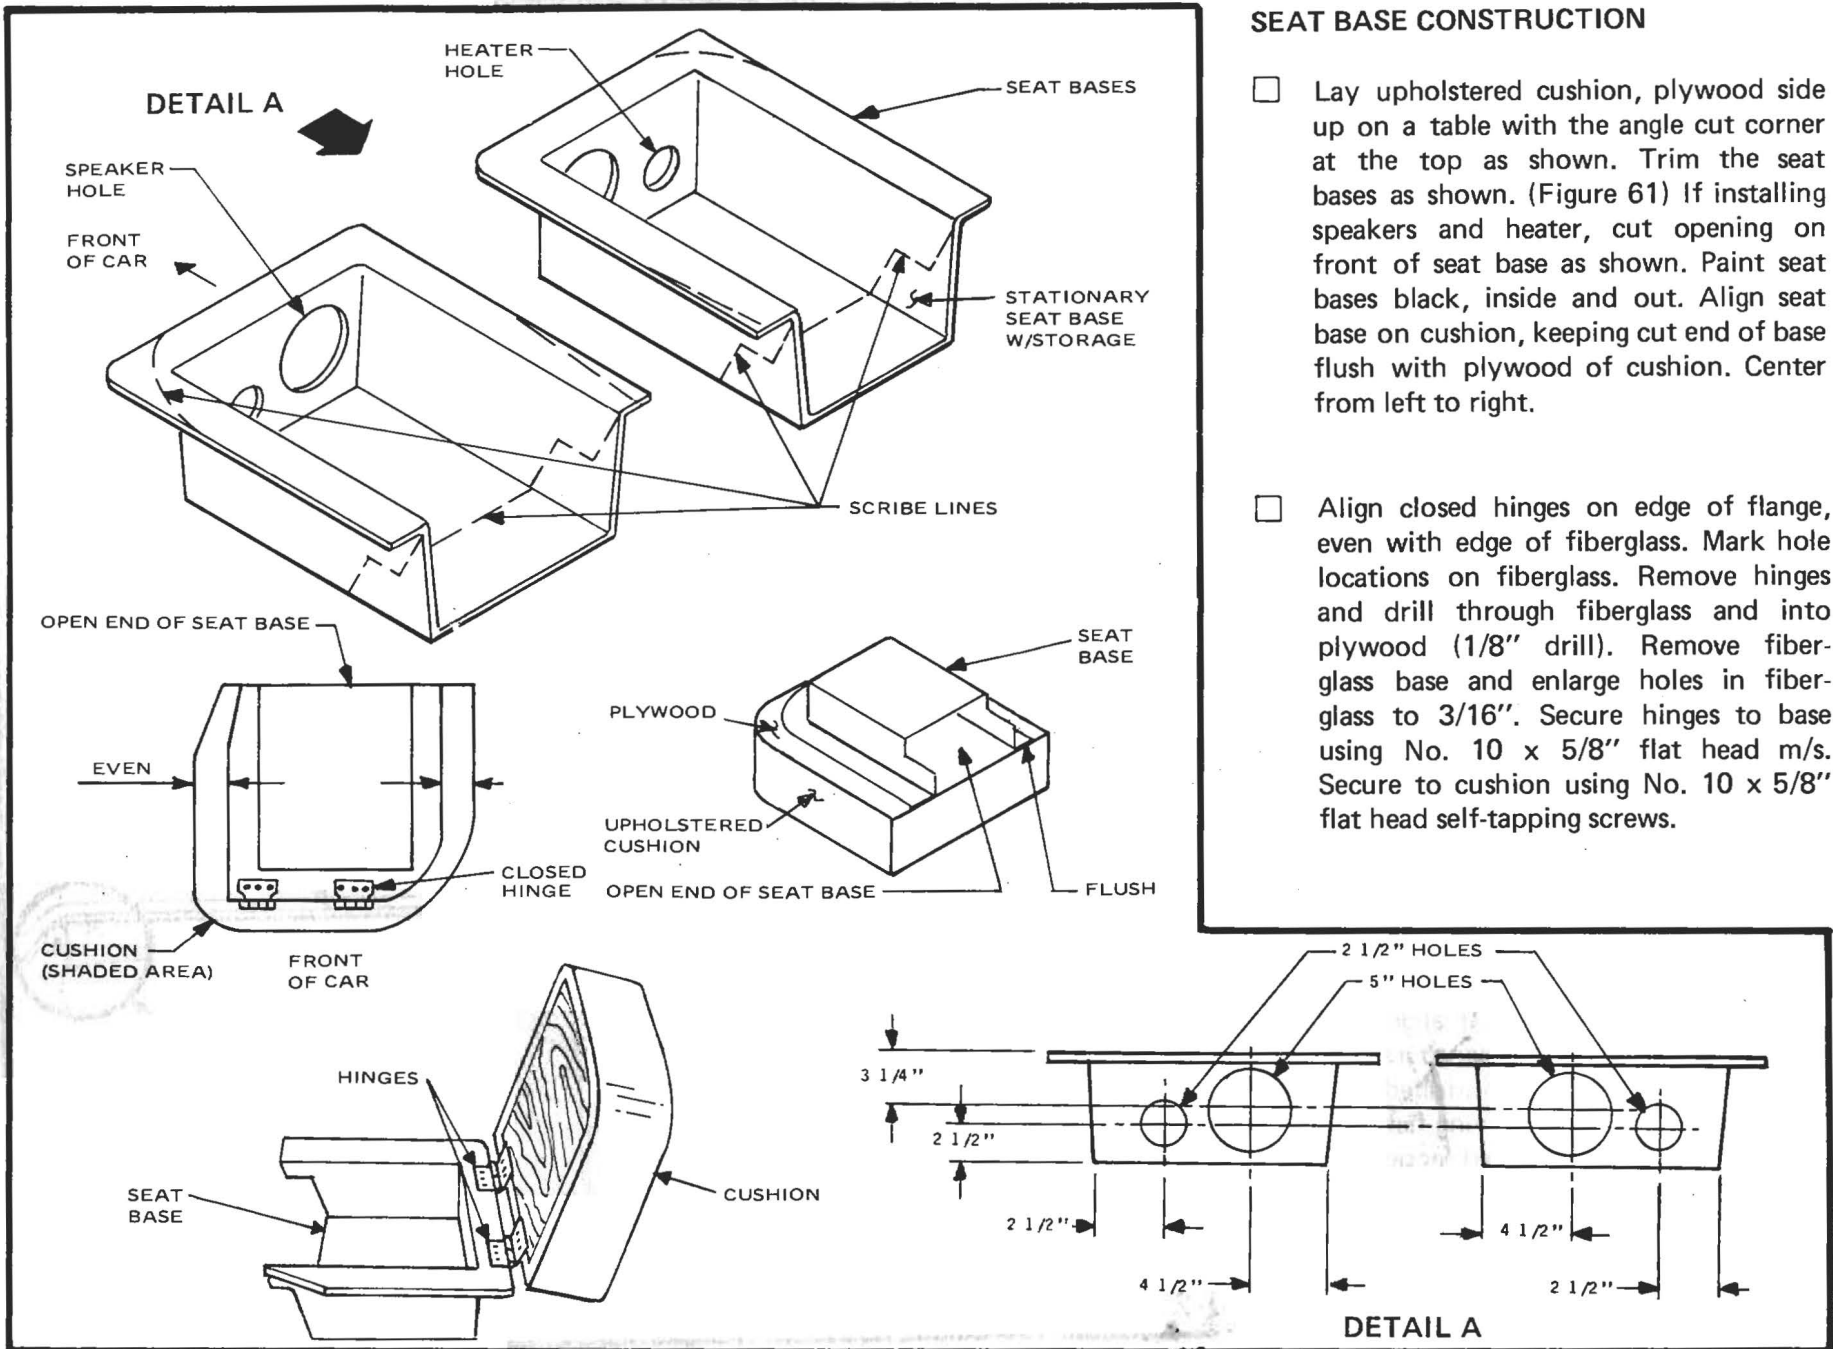

Figure 61
- ☐ Lay upholstered cushion, plywood side up on a table with the angle cut corner at the top as shown. Trim the seat bases as shown. (Figure 61) If installing speakers and heater, cut opening on front of seat base as shown. Paint seat bases black, inside and out. Align seat base on cushion, keeping cut end of base flush with plywood of cushion. Center from left to right.